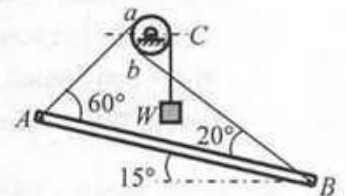

Fig. 2
2. Fig. 2 shows a rigid bar  $AB$  (weighing  $W_{AB} = 10$  lb) supported by cables  $Aa$  and  $Bb$ , which are both wrapped around pulley  $C$ .